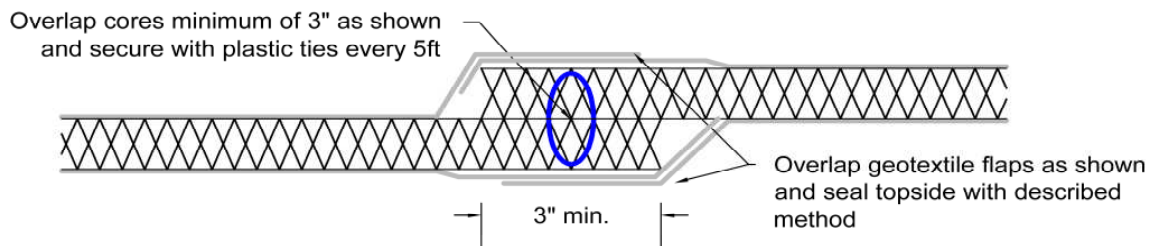
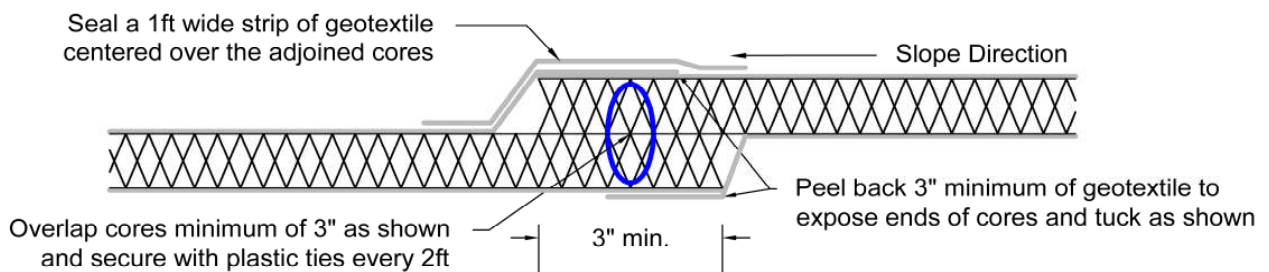
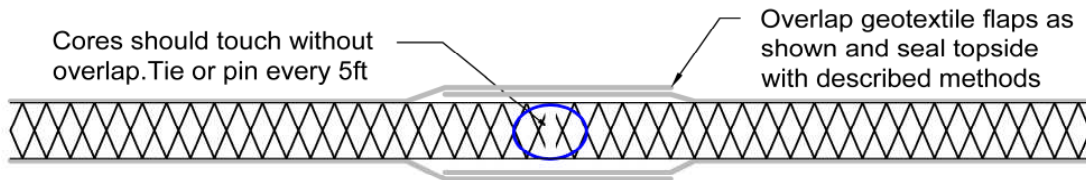

Figure 3. Seaming Adjacent Rolls along Their Length
Figure 4. Seaming Rolls End to End
Figure 5. Seaming Adjacent Rolls Butted Along Their Roll Length
6. Drainage cores of adjacent panels and end to end panels should overlap 3" as shown in figures 3 & 4. When placed over a very stiff subgrade, the cores may be butt tight together without overlap as shown in figures 5 & 6.
3. To prevent soil from entering the drainage core, adjacent panels shall be seamed by tucking and overlapping the flaps as shown in figure 3. End to end rolls and cut rolls (no geotextile flap) will require a separate strip of non-woven geotextile be placed over the seam as shown in figure 4.
Damage to the geonet portion of the deployed geocomposite shall be patched by placing a geonet or geocomposite patch extending 12 inches beyond the edges of the damaged area. The patch shall be secured to the original geonet by tying every 6 inches with approved tying devices. If the damage on the geonet portion of the deployed geocomposite is more than 50 percent of the width of the roll, this entire full width section shall be cut out, and the two portions of the geonet (end to end) shall be joined as explained above in figure 4.